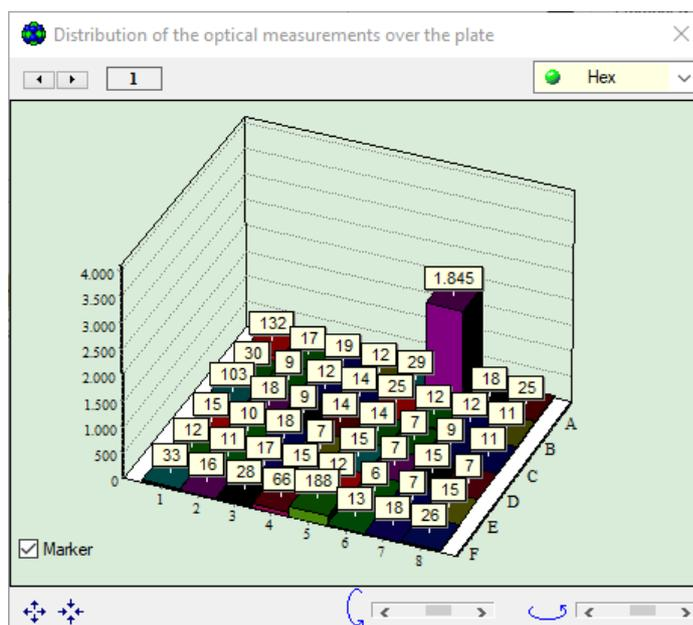

Fig.27 Distribution of optical measurements over the plate window
- to check optical measurement data of the selected tubes in the form of 3D histogram in the **Distribution of optical measurements over the plate** window by clicking  (Fig.27).